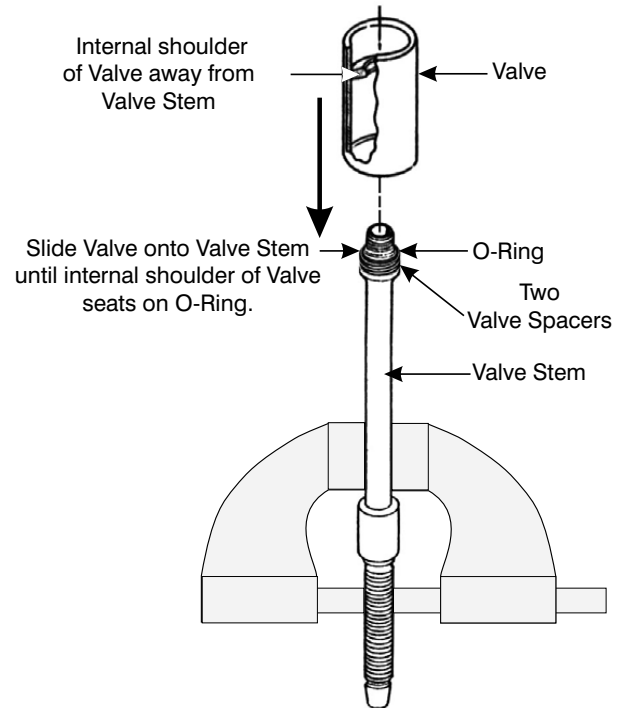
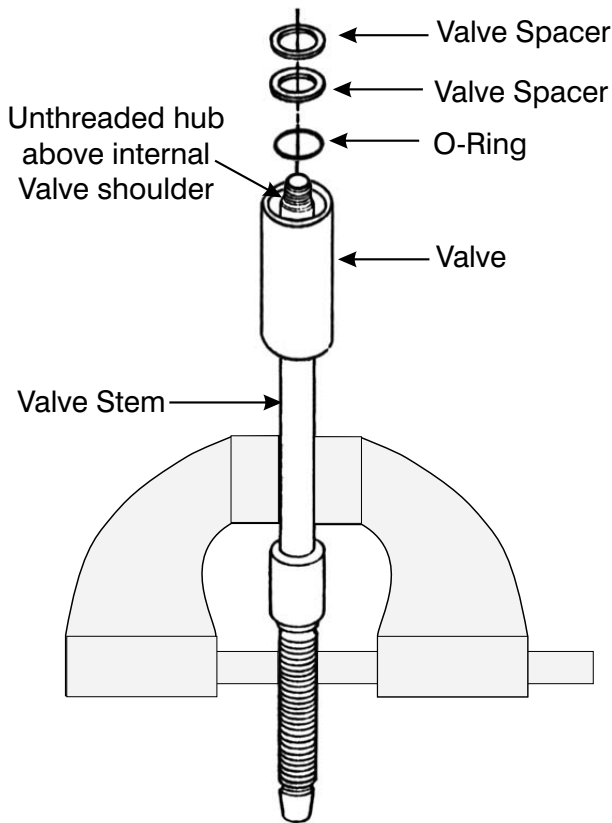

Figure 9-9. Install Valve on Valve Stem.
Figure 9-10. Install Upper Spacers and O-Ring
7. Obtain the Valve (7). Look into each end of the Valve for the internal shoulder. Refer to Figure 9-9.
8. Position the Valve over the end of the Valve Stem. The end of the Valve with the internal shoulder should be away from the Valve Stem, as shown in Figure 9-9.
10. Seat the internal shoulder of the Valve squarely against the lower O-ring. Refer to Figure 9-9.
11. Obtain the remaining two Spacers (5) and one O-Ring (6). Lightly lubricate each of these components.
12. Slide the O-ring (6) over the threads and onto the un-threaded hub of the Valve Stem.
13. Seat the O-ring squarely against the upper surface of the internal Valve shoulder. Refer to Figure 9-10.
14. Slide the two Spacers (5) over the threads and onto the unthreaded hub of the Valve Stem. Seat the Spacers squarely against the upper O-ring. Refer to Figure 9-10.